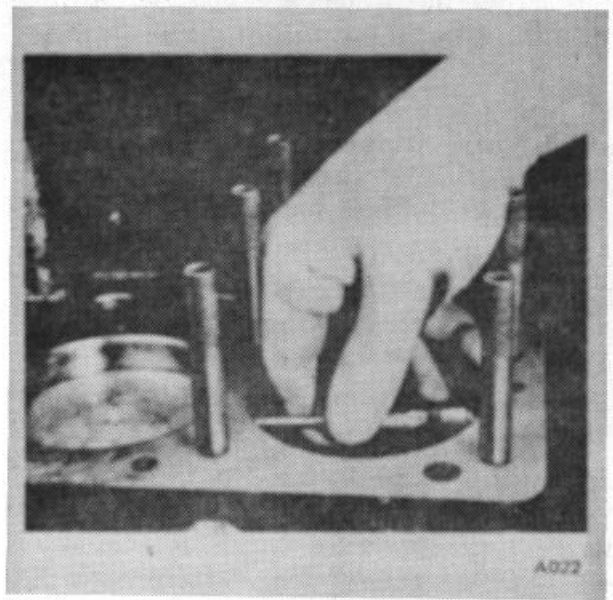

Figure 21.
B. Determine the original diameter of the cylinder by checking the unworn area with inside micrometer at intervals of approximately 45°. (Fig. 21)